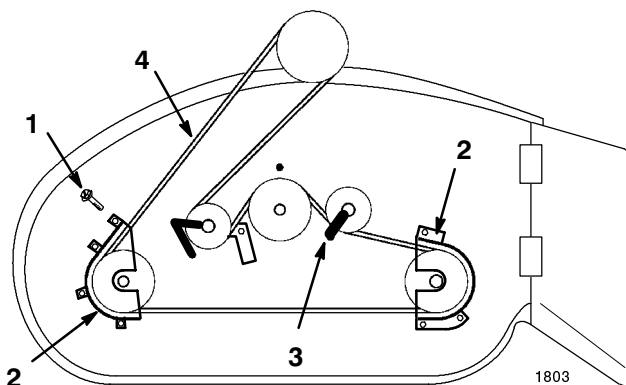

Figure 51
2. Remove the pulley cover mounting screws and pulley covers from blade pulleys (Fig. 51).
3. Loosen idler pulley mounting bolts to move belt guides (Fig. 51).
4. Remove the belt from the pulleys (Fig. 51).
2. Adjust belt guide on idler pulley as shown and tighten mounting bolt (Fig. 51).
3. Install the left and right pulley covers with the mounting screws (Fig. 51).